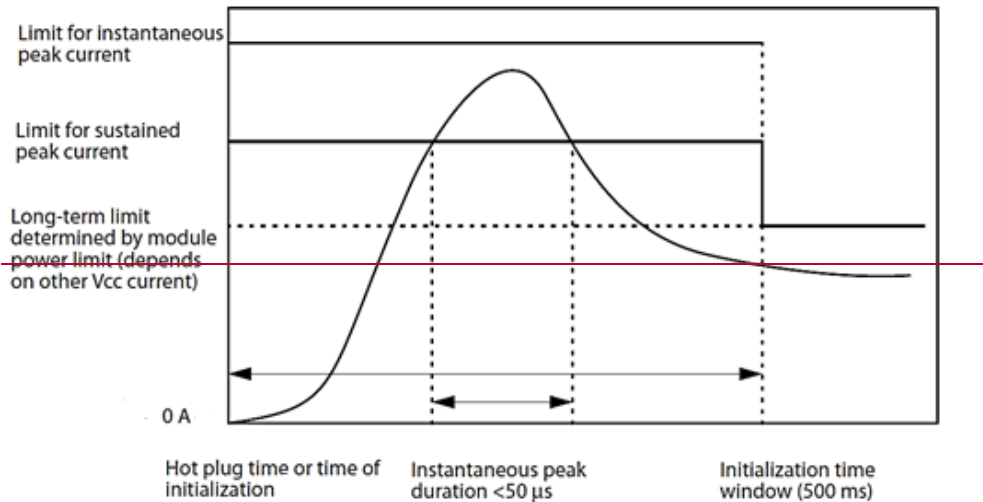

Figure C 1. Instantaneous and Sustained Peak Current for 3.3 Vact TX and 3.3 Vact RX
~~To avoid exceeding system power supply limits and cooling capacity, all cables at power up, by default, must operate with ≤ 1.5 W. The maximum power level is allowed to exceed the classified power level for 500 ms, following hot insertion or power up. However, the current is limited to values given by Table C-1 and illustrated in Figure C-1.~~
- ~~3. The maximum currents are the allowed currents for each power supply; therefore, the total module peak currents are permitted to be twice this value. The instantaneous peak current is allowed to exceed the specified maximum current capacity of the connector contact for a short period, see Figure C-1.~~